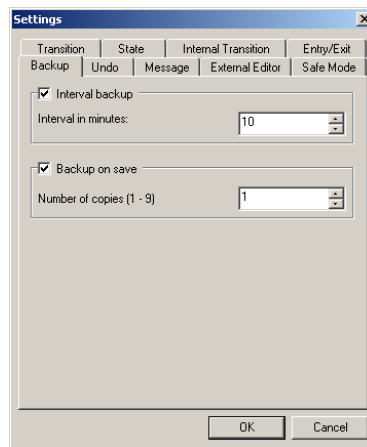

Figure 83: Settings dialog box, file backup options (Designer)
- 1 On the menu, choose `Tools>Settings`. A *dialog box will be displayed*. See *Figure 83*, page 103.